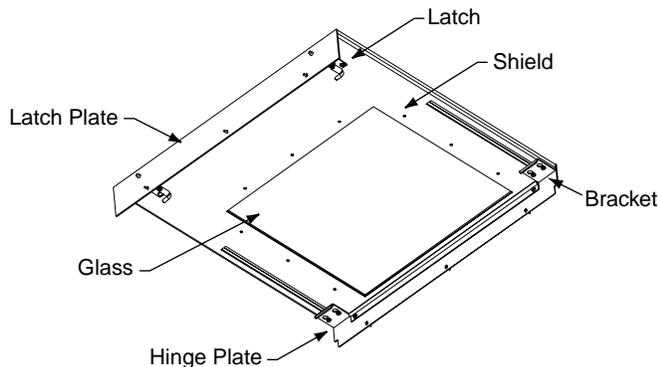

Figure 1
- ① Read instructions completely before proceeding.
- ② Follow instructions carefully. Installation contrary to instructions invalidates warranty.
- ③ Keep body parts out of the Revelation door opening while power is connected to the Revelation. Serious injury could occur if door closes.
- ④ Make sure power is disconnected BEFORE beginning installation. Do not make adjustments while power is connected.
- ⑤ Take great care when handling glass shield. If cleaning is necessary, do so very lightly with glass cleaner and a soft, lint free cloth.
- ⑥ Use caution when working near first surface mirror. Do not allow glass shield to come in contact with first surface mirror.
- ⑦ Make sure glass shield is up before before operating Revelation.
- ① Unpack and inspect the Revelation Glass Shield for damage (see Fig. 1).